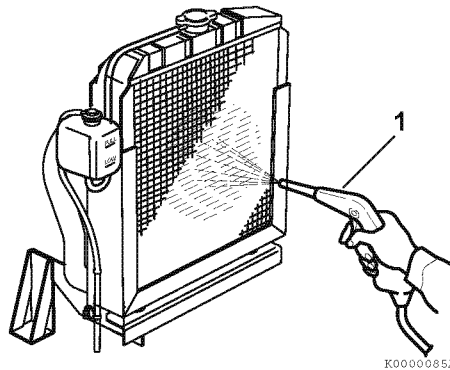

Fig. 00-42
Note that a typical radiator is shown in Fig.00-42 for illustrative purposes only. Charge air cooler is usually installed either on the front or back of the radiator.
- Blow off dirt and dust from fins and radiator with 28 psi (0.19 MPa; 2 kgf/cm²) or less of compressed air (1, Fig.00-42). Be careful not to damage the fins with the compressed air.